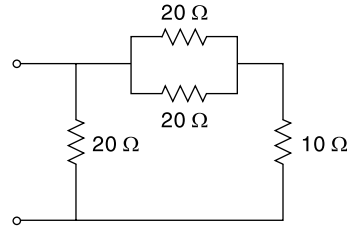

Fig. 4.172
9. Find the equivalent resistance for the circuit shown in Fig. 4.172. [Ans: 10 Ω]